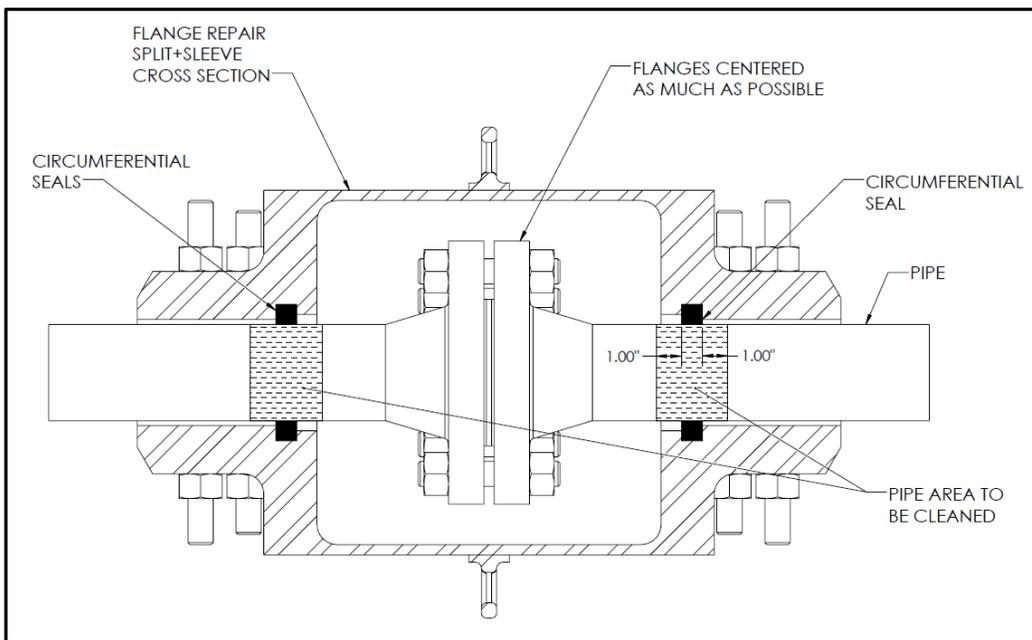

Figure 1
1. Remove all coatings, rust and scale from the pipe surface where the circumferential seals of the PLIDCO Flange Repair Split+Sleeve will contact the pipe (see Figure 1). A near-white finish, as noted in SSPC-SP10 / NACE No.2, is preferred. The cleaner the pipe surface the more positive the seal.
3. Circumferential pipe welds within the circumferential seals do not need to be ground flush as long as the weld height does not exceed 3/16 inch (4.7 mm) within 1" of the seal. Welds inside the belly do not need to be ground. (see Figure 1).